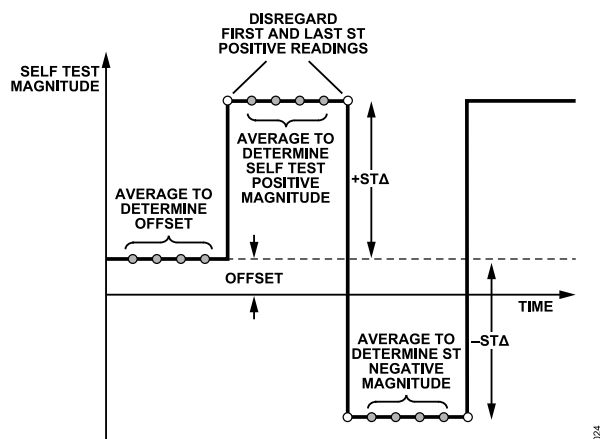

Figure 24. AC Self Test Measurement
5. Determine the STΔ magnitudes using the procedure shown in Figure 24.